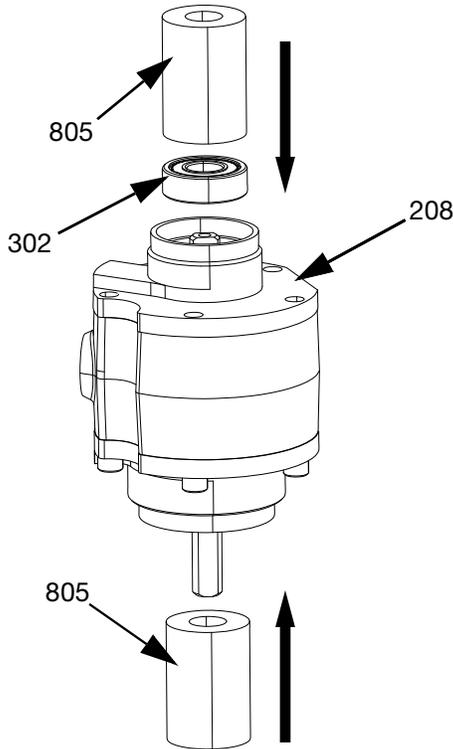

FIG. 19
5. Place the end cap (208) that was removed during disassembly onto the rotor lock side of the air motor housing.
6. Refer to FIG. 19 on page 23, Place one of the two installation tools (805) included in kit 25E508 over the rotor shaft (204) on the drive side of the air motor to protect the shaft.
- Place the air motor in an arbor press with the rotor lock side of the motor shaft facing upward vertically and use the other installation tool to press the new bearing (302) into the end cap (208).